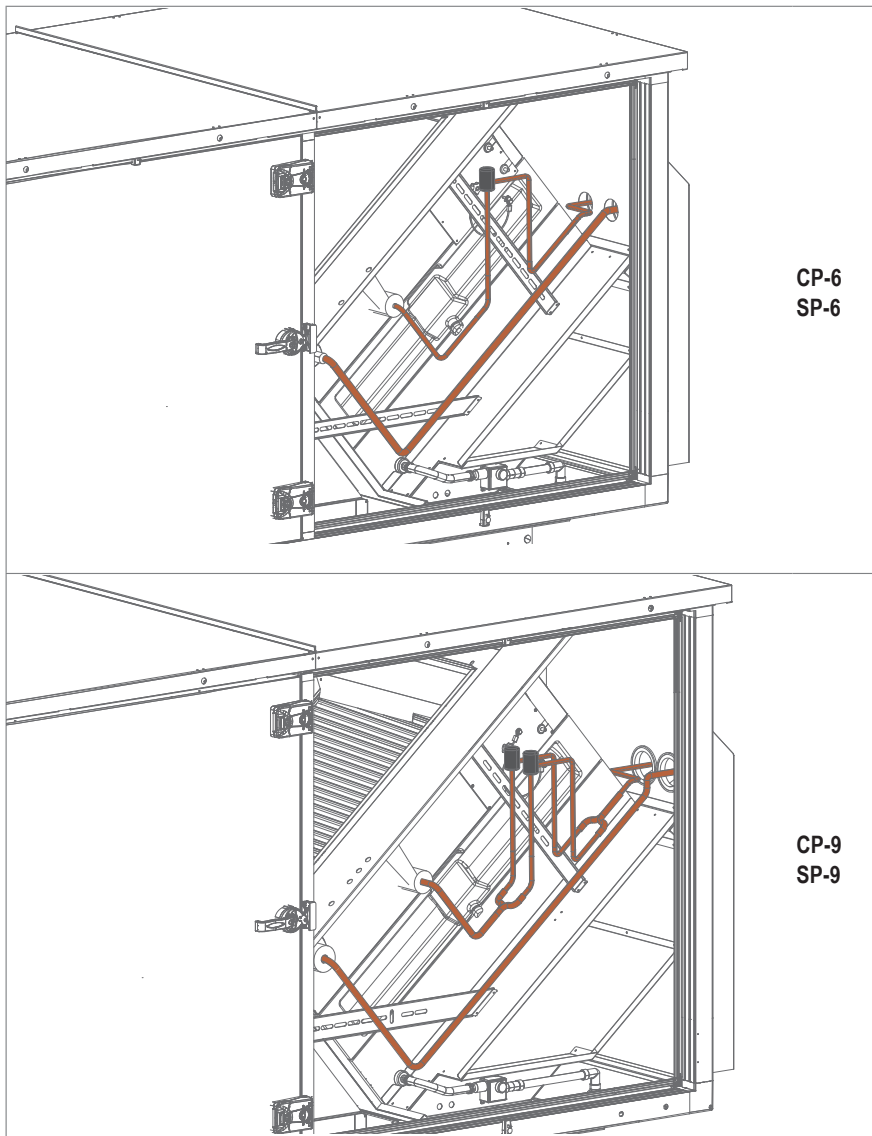

Fig. 30: Installation of refrigerant pipes in the roof unit
- Install the expansion valve supplied loose in the TopVent® roof unit, as shown in Fig. 30. Please note the following: